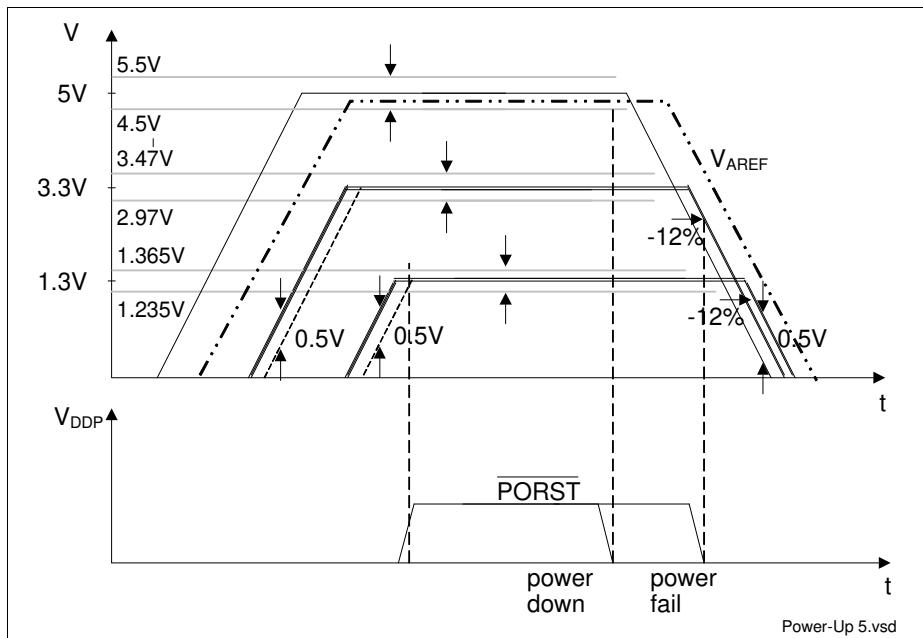

Figure 15 5 V / 3.3 V / 1.3 V Power-Up/Down Sequence for 5% Operating Range
- At any moment in time to avoid increased latch-up risk, each power supply must be higher than any lower_power_supply - 0.5 V, or: $V_{DD5} > V_{DD3.3} - 0.5 \text{ V}$; $V_{DD5} > V_{DD1.3} - 0.5 \text{ V}$; $V_{DD3.3} > V_{DD1.3} - 0.5 \text{ V}$, see Figure 15.